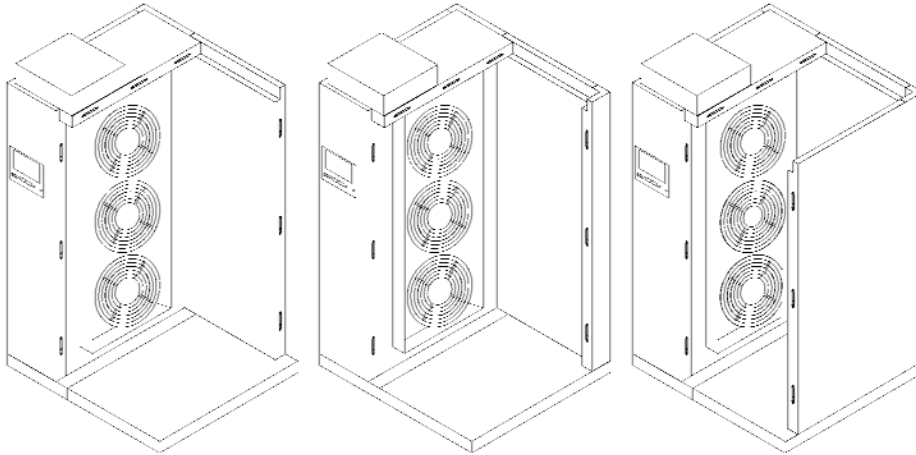

Fig 9
5. Assemble the remaining wall panels. (Fig. 9) Lock and seal each panel into place as per the 'Panel Assembly Instructions'. (Refer to page 4)